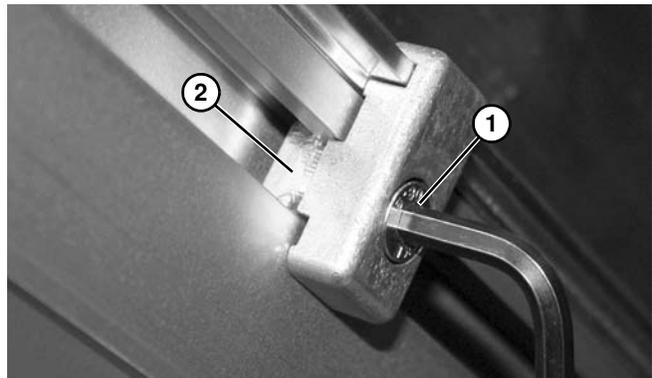

Figure 34
2. Tighten screw (Figure 34, item 1) making sure t-bar (Figure 34, item 2) rotates and engages inside of t-slot.